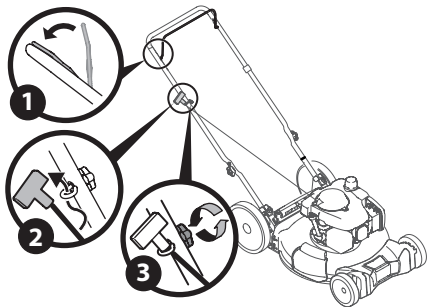

Figure 14
**NOTE:** The rope guide is attached to the right side of the upper handle. Loosen the knob securing the rope guide (Figure 14).